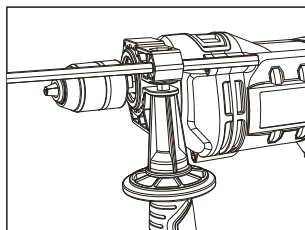

Fig.3
- c.The depth gauge helps keep an accurate depth when drilling holes to a set depth. Add the depth gauge and tighten the handle to secure them in place.(See fig.3)